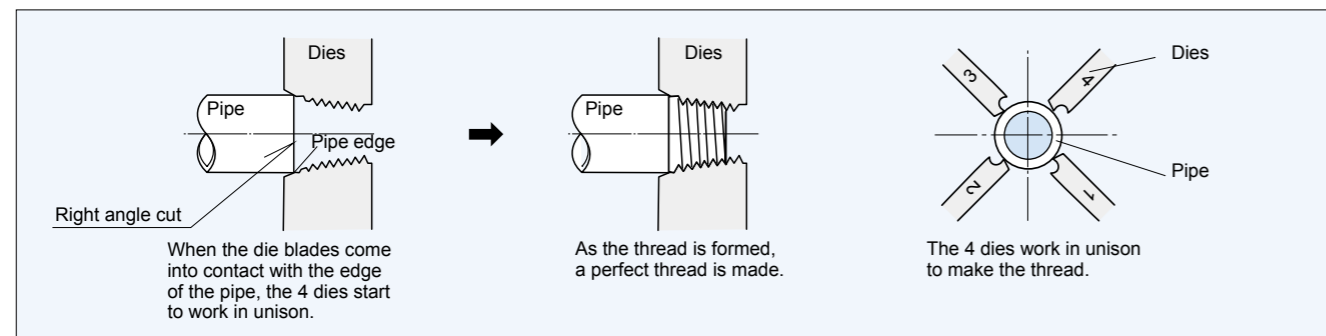

Fig. 2 Principle of cutting threads with a set of dies
- When a thread is cut on a steel pipe that has been correctly cut at right angles, the 4 dies work in unison to cut a perfect thread. (Fig. 2)